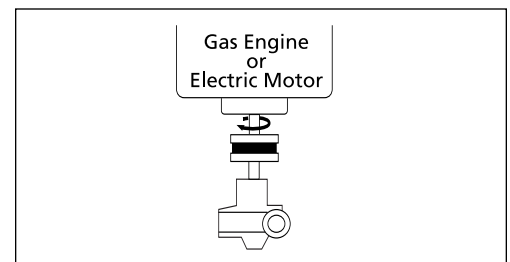

Figure 4 – Flexible Coupling Installation
2. Line up the pump shaft with the straight edge as shown in Figure 4 to assure they are aligned. Shim the pump if necessary to match the shaft height of the engine or motor. The shaft ends should not touch.